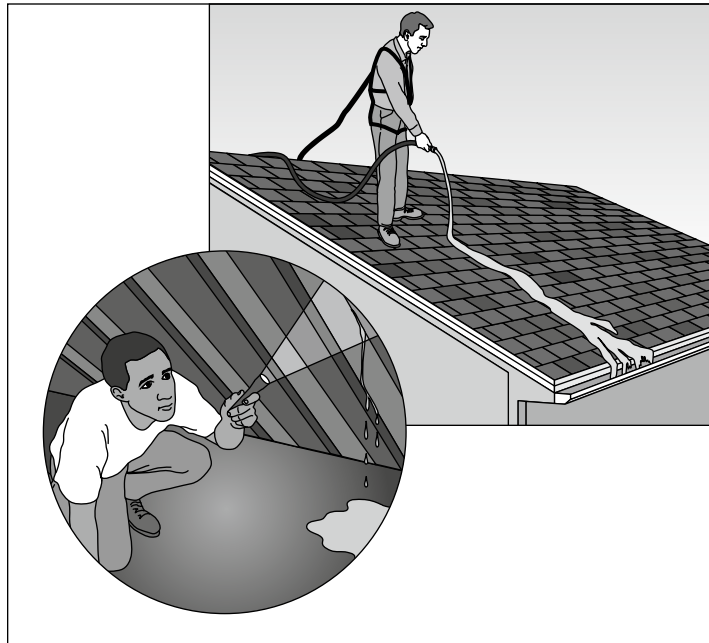

FIGURE 5-4:
2. **Use the garden hose to run a modest amount of water over the roof at a point below the area where a leak is suspected. (See Figure 5-4.)**